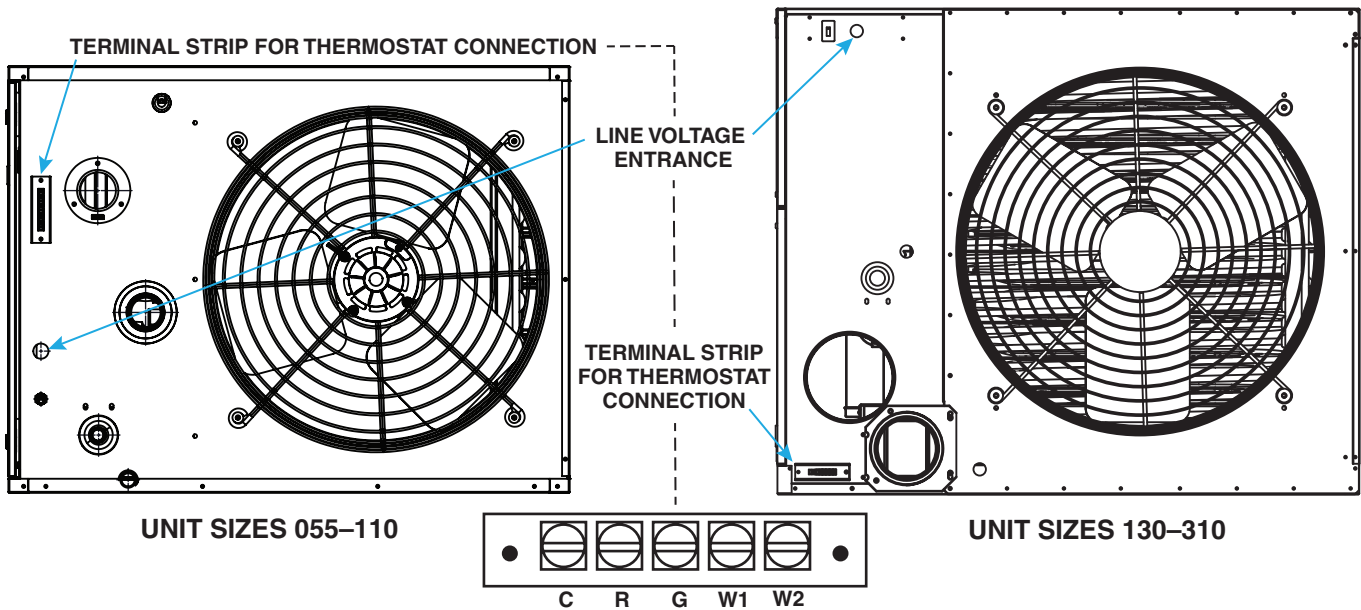

Figure 24. Supply Wiring Entrance and Control Connection Terminal Strip
- The supply wiring enters at the rear of the heater, as shown in **Figure 24**. Supply wiring connects to leads located inside a sealed electrical box. To maintain the sealing feature of the electrical box, always replace the cover plate.
- The terminal strip for the 24V thermostat connections is located on the outside of the cabinet at the back of the heater, as shown in **Figure 24**. Wires from the terminal strip are factory-wired to the circuit board.
- Make thermostat connections at the terminal strip on the back of the heater (see Figure 24). The strip has five terminals: C, R, G, W1, and W2. Refer to the wiring diagram provided with the heater.